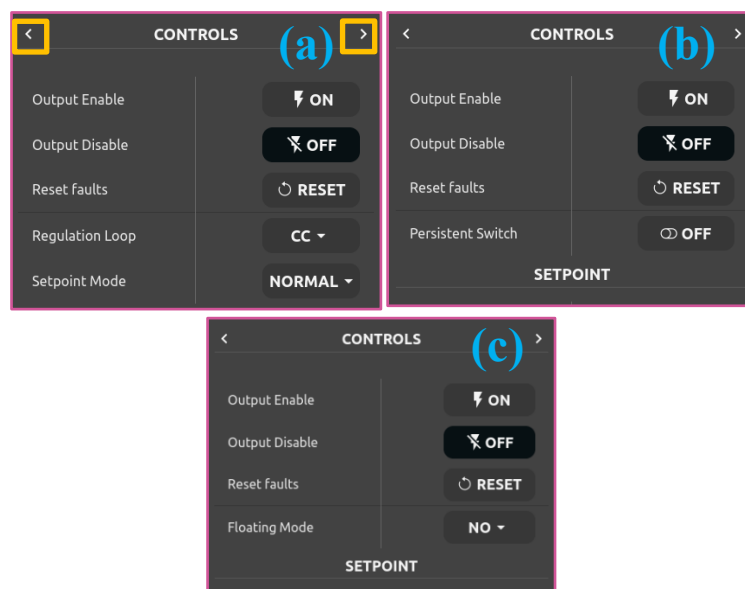

Figure 5: Controls pages.
2. *Controls*: the control section (see **Figure 5**) is sub-divided in 2 regions. The top region is fixed (Output Enable, Output Disable and Reset faults) and the bottom region has three available menus which can be selected with the *Controls arrows* (left and right, highlighted in orange in **Figure 5(a)**). From the top region the PS output can be enabled or disabled and the faults can be reset. From the bottom region there are three available menus: